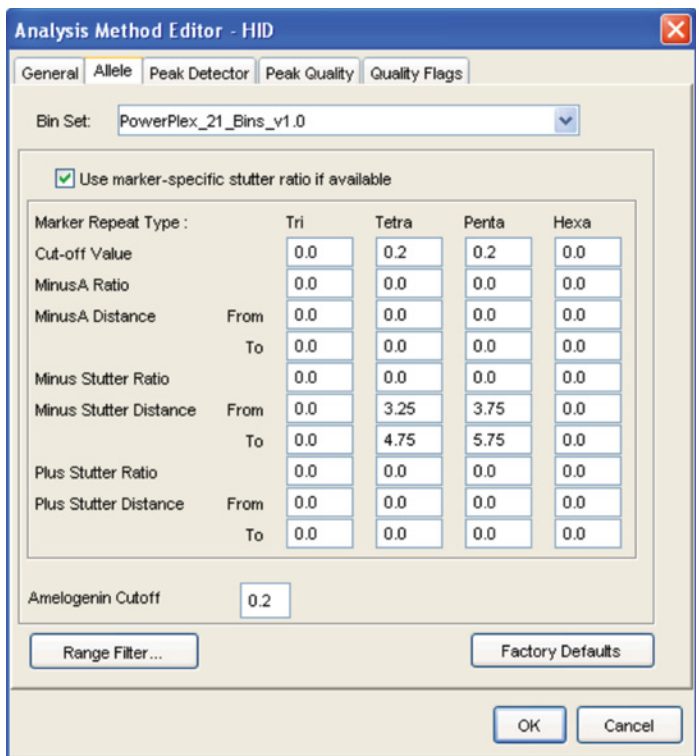

Figure 20. The GeneMapper® ID ‘Allele’ tab with settings for using a 20% peak filter.
6. Select the 'Allele' tab (Figure 20).
8. Ensure that the "Use marker-specific stutter ratio if available" box is checked. Doing this will assign locus-specific stutter filters and distances from the imported stutter file. Ensure that the appropriate global filter is applied to the analysis method. For example, for a 20% filter enter "0.20" for the Amelogenin Cutoff and Global Cutoff Value for Tetra and Penta repeats (Figure 20).
- Enter the values shown in Figure 20 for proper filtering of peaks when using the PowerPlex® 21 System. For an explanation of the proper usage and effect of these settings, refer to the Applied Biosystems user bulletin titled “*Installation Procedures and New Features for GeneMapper ID Software 3.2*”.